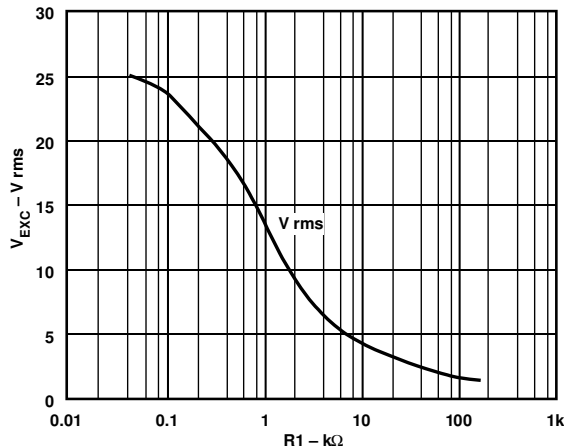

Figure 9. Excitation Voltage VEXC vs. R1
- Referring to Figure 9, for VS = ±15 V, select the value of the amplitude determining component R1 as shown by the curve in Figure 9.